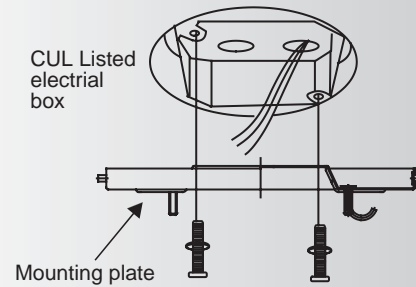

Fig. 4
Step 1. Attach the mounting plate to the outlet box with two screws and washers provided with the outlet box. Make sure the mounting plate is tight and secured. (Fig. 4)